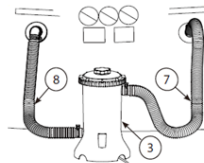

Fig. 3
- Once the pool is full, place the filtration between these two connections on the side of the pool, app. 15cm from the ground. Inlet water hose (7), coming into the filtration case from the top, should lead to the filtration from the right, and the return hose (8), coming from the pump (in the casing's bottom), should lead to the left. See **Fig. 3**. You can fix the filtration position on the grass using the supplied steel pins.
- Unscrew the vent bolt (6) on the filtration cover (4) by app. one and half turn. NOTE: THE SYSTEM MUST BE VENTED DUE TO AIR LEAKS DURING THE FILLING OF THE FILTRATION WITH WATER.